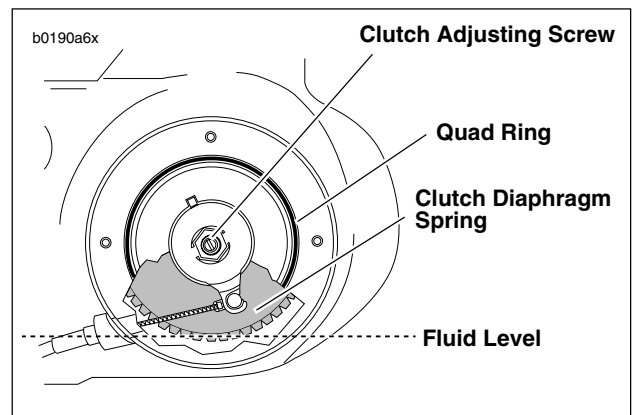

Figure 1-15. Fluid Level
6. See Figure 1-15. Add SPORT-TRANS FLUID (Part No. 98854-96 quart size; Part No. 98855-96 gallon size) as required until fluid level is even with bottom of clutch diaphragm spring.